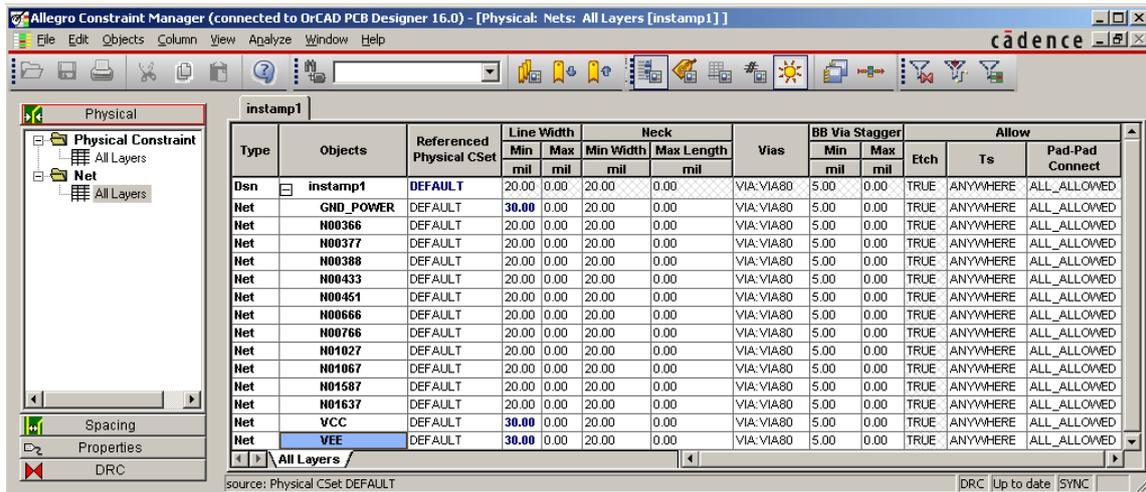

Figure 13. Constraint manager after changing the widths of the three power nets.
2. The left-hand part of the window shows the various properties that can be edited. Click on **All Layers** under **Net**. See figure 13 on the next page for guidance.
Fixup. Choose Setup > Constraints > Physical... from the menu bar. Select Physical Constraint Set > All Layers to bring up the spreadsheet shown in figure 13 on page 30. The column headed Vias for the DEFAULT row probably has VIA:VIA80. Highlight this cell and choose Edit > Change... Remove VIA from the Via list on the right and click OK. The cell will change to VIA80, which is what we want. Close the Constraint Manager and save your board.